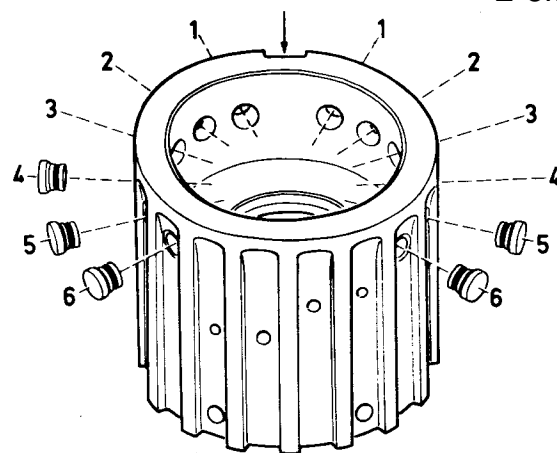

Fig. 22. The valve casing in COP 6 is, as standard, equipped with five plugs which can be removed if extra flushing through the drill and bit is required
The volume of flushing air can also be increased through COP 6, by removing the plugs in the valve casing (see Figs. 22 and 2). If this extra flushing air is not required and the compressor capacity is limited, the plugs should be kept in the valve housing.
On delivery the drill has plugs in five holes as shown in Fig. 22. An optional number of these plugs may be removed. When the plugs are to be refitted, the same holes as previously should be blocked. The duct (1), nearest the key groove, controls the automatic restarting of the drill after blowing and should not be plugged.